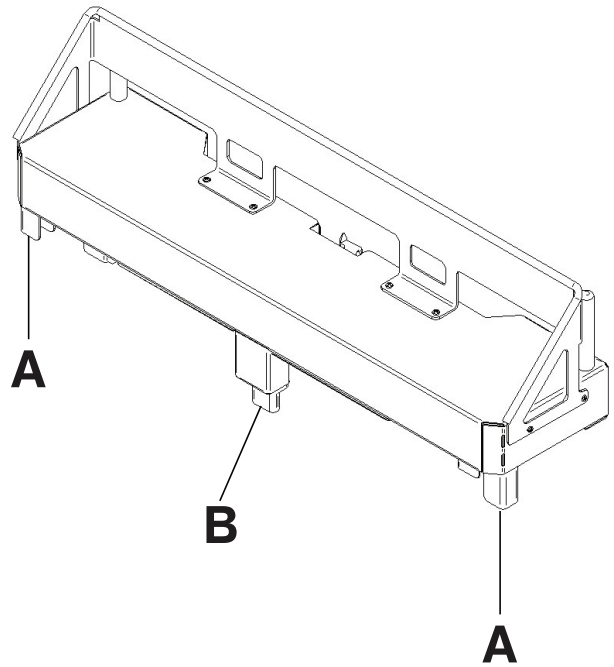

Figure 102 – Attaching the bed extender option
3. Insert the bed extender option legs (A) and the footboard connector (B) onto the foot end of the product (Figure 102).